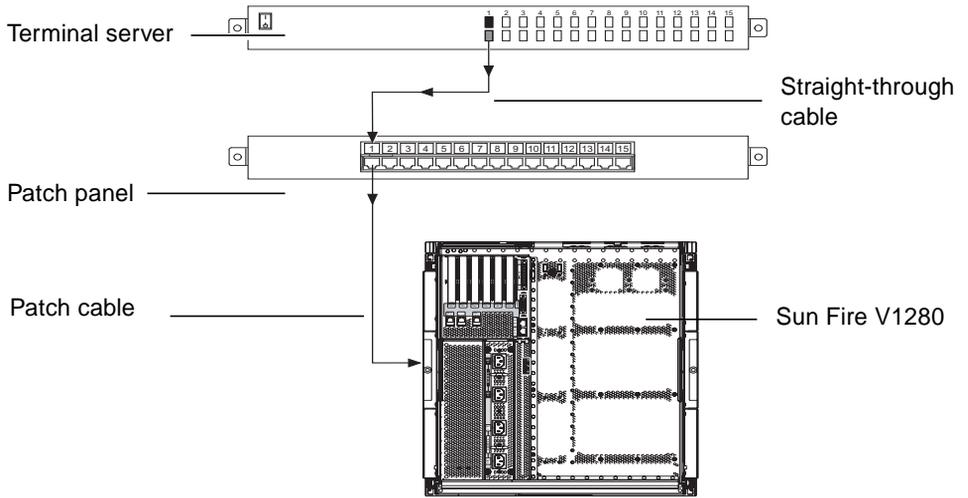

FIGURE C-1 Patch Panel Connection Between a Terminal Server and a Sun Fire V1280
- Connect a roll-over cable to a patch panel and use a straight-through patch cable to connect the patch panel to the Sun Fire V1280 system (see FIGURE C-1).